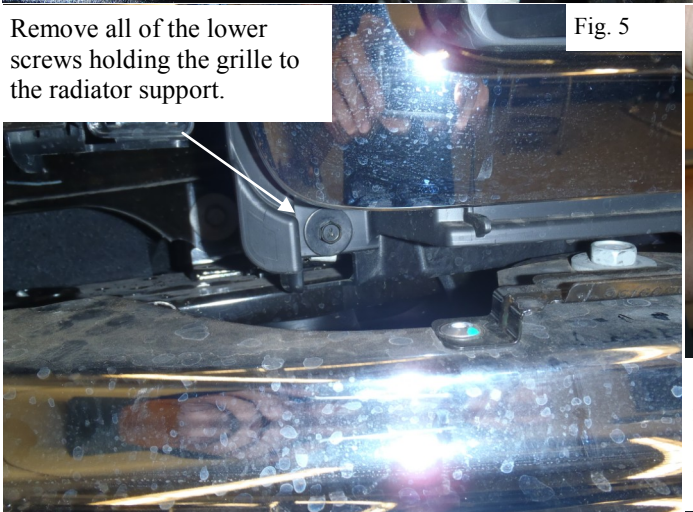

Fig. 5
3. If installing a Winch Mounted Grille Guard kit remove the vehicle's grille (Figures 5 - 6). Skip this step if installing kit 46-23685.